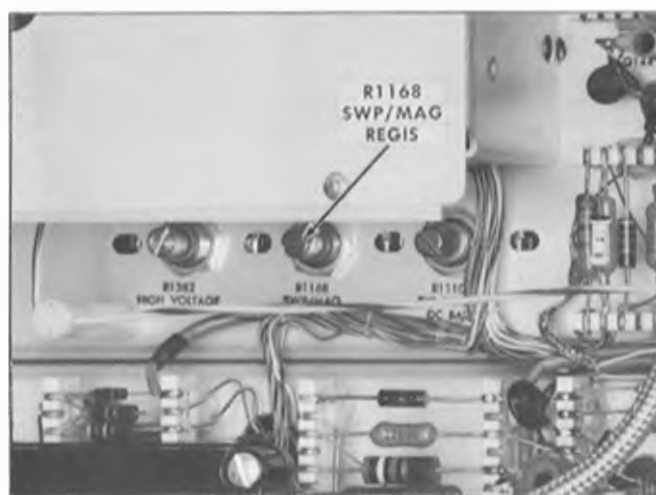

Fig. 6-34. Adjustment location for Upper Beam sweep magnifier registration.
d. Adjust R1168 (Fig. 6-34) to position the start of the trace to the graticule center line.